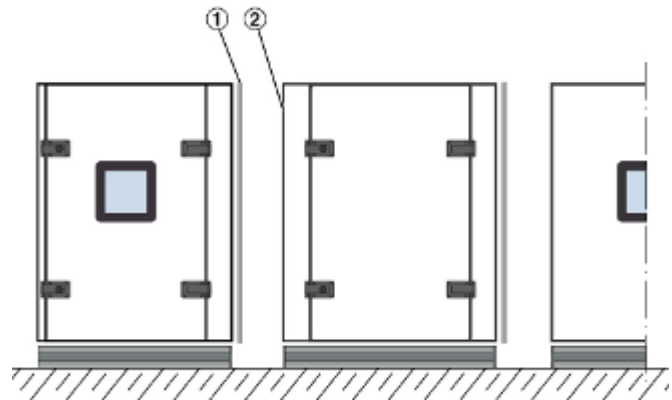

Fig. 11: Seals on AHU casing units
- 3 ▶ AHU casing units that are to be joined are fitted with perimeter seals (Fig. 11 /1). Note that only one of each two casing units that are to be joined has a seal; the other one does not have a seal (Fig. 11 /2).
- 1 ▶ At the installation location: Move the AHU casing units as close together as possible and according to the correct assembly sequence, Fig. 11 . Make sure that all the connections (e.g. water) are on the correct side.